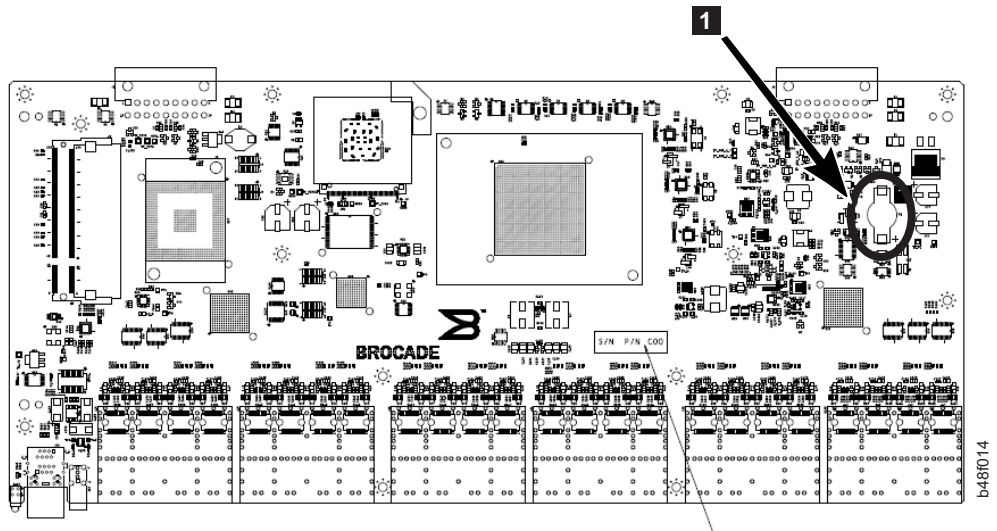

Figure 16. Location of battery holder
5. On the circuit board, go to the B1 location (**1** in Figure 16 on page 34) and remove the BR1225 battery from the holder.